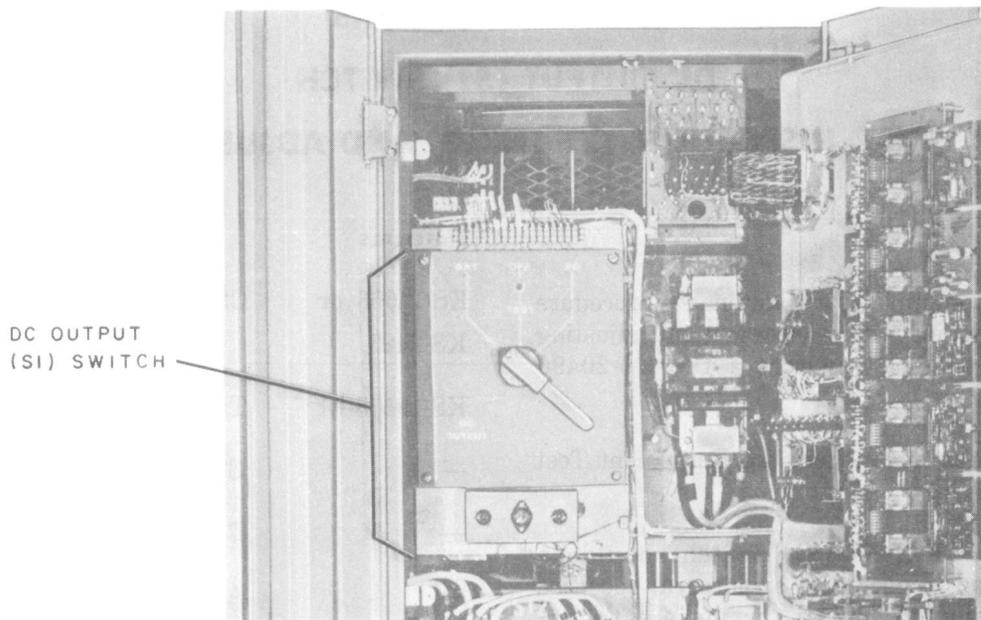

Fig. 1—DC OUTPUT (S1) Switch—Front View
- 1.01** This section provides a maintenance procedure for testing, inspecting, cleaning, and adjusting the DC OUTPUT (S1) switch of the KS-20490 rectifiers, Fig. 1.